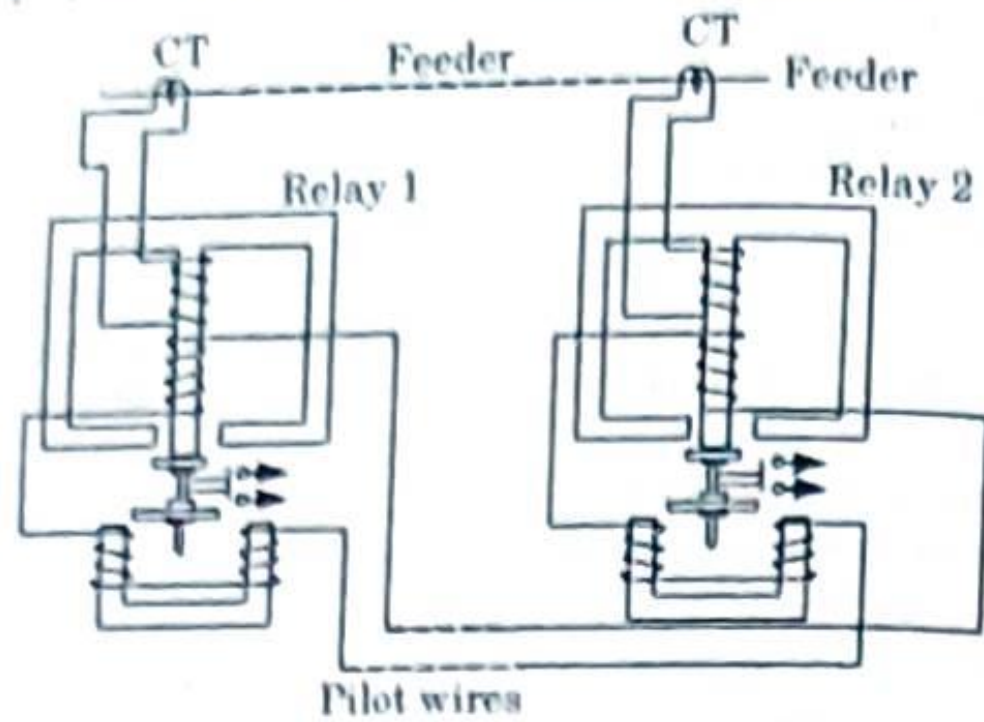

Fig. 3.19.3. Translay scheme of feeder protection.
1. These relays are used in feeder protection and in this two such relays are employed at the two ends of feeder as shown in Fig. 3.19.3.